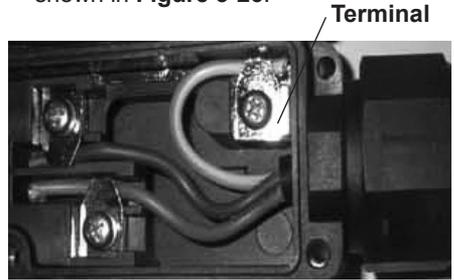

Figure 3-26: Secure terminals with screws
2. Complete electrical connection by securing terminals with screws as shown in **Figure 3-26**.